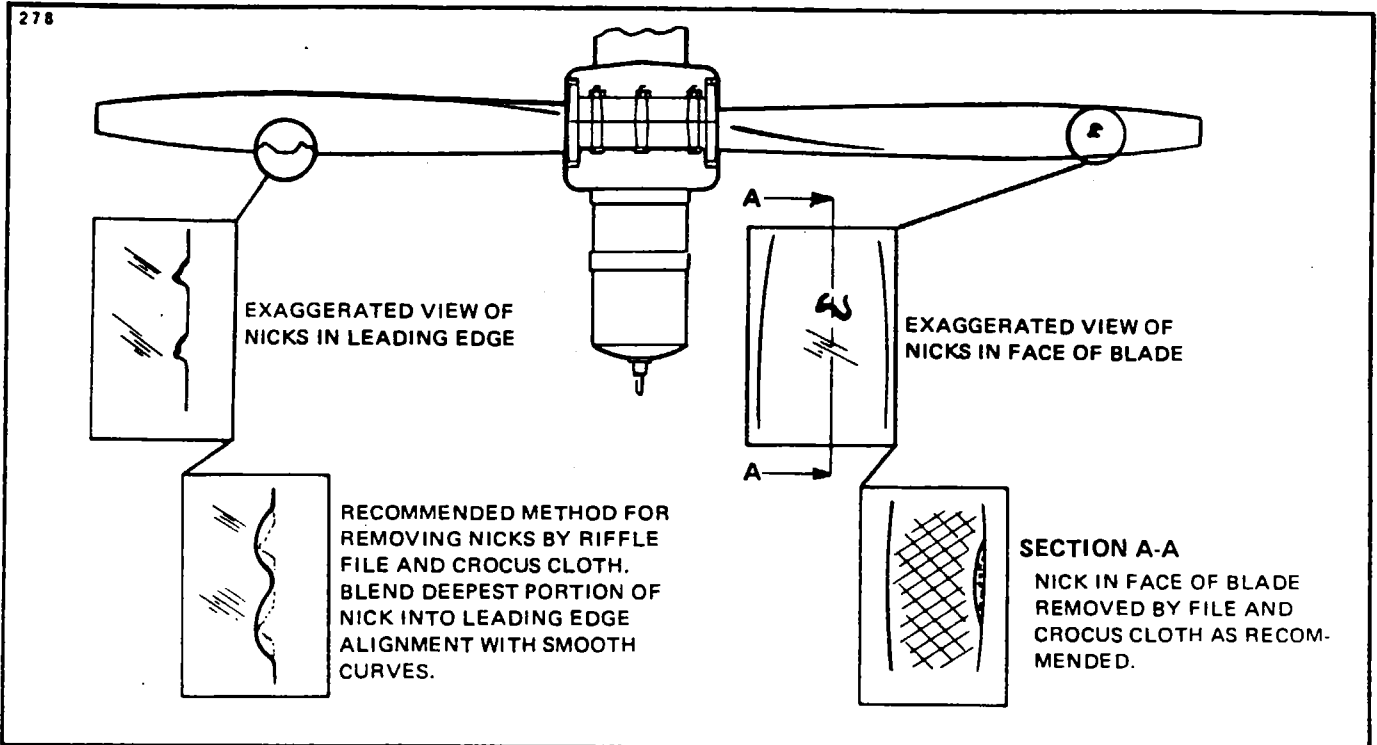

Figure 8-4. Typical Nicks and Removal Method
- f. Inspect blades for damage or cracks. Nicks in leading edge of blades should be filed out and all edges rounded, as cracks sometimes start from such places. Use fine emery cloth for finishing. Refer to Figure 8-4 for propeller blade care.